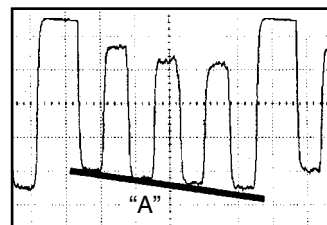

Fig. 2-1
5. Press the VOL. UP/DOWN button on the remote control until the section "A" becomes a straight line (**Refer to Fig. 2-1**).